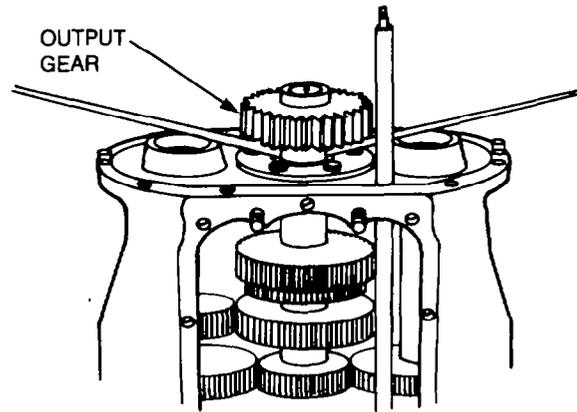

Figure 165 — Removing Output Gear
- o. Using a suitable wedge, block the mainshaft gears to prevent the mainshaft from turning, then remove the nut securing the output gear to the mainshaft. With the aid of two suitable levers, remove the output gear together with the bearing and thrust washer (see Fig. 165).